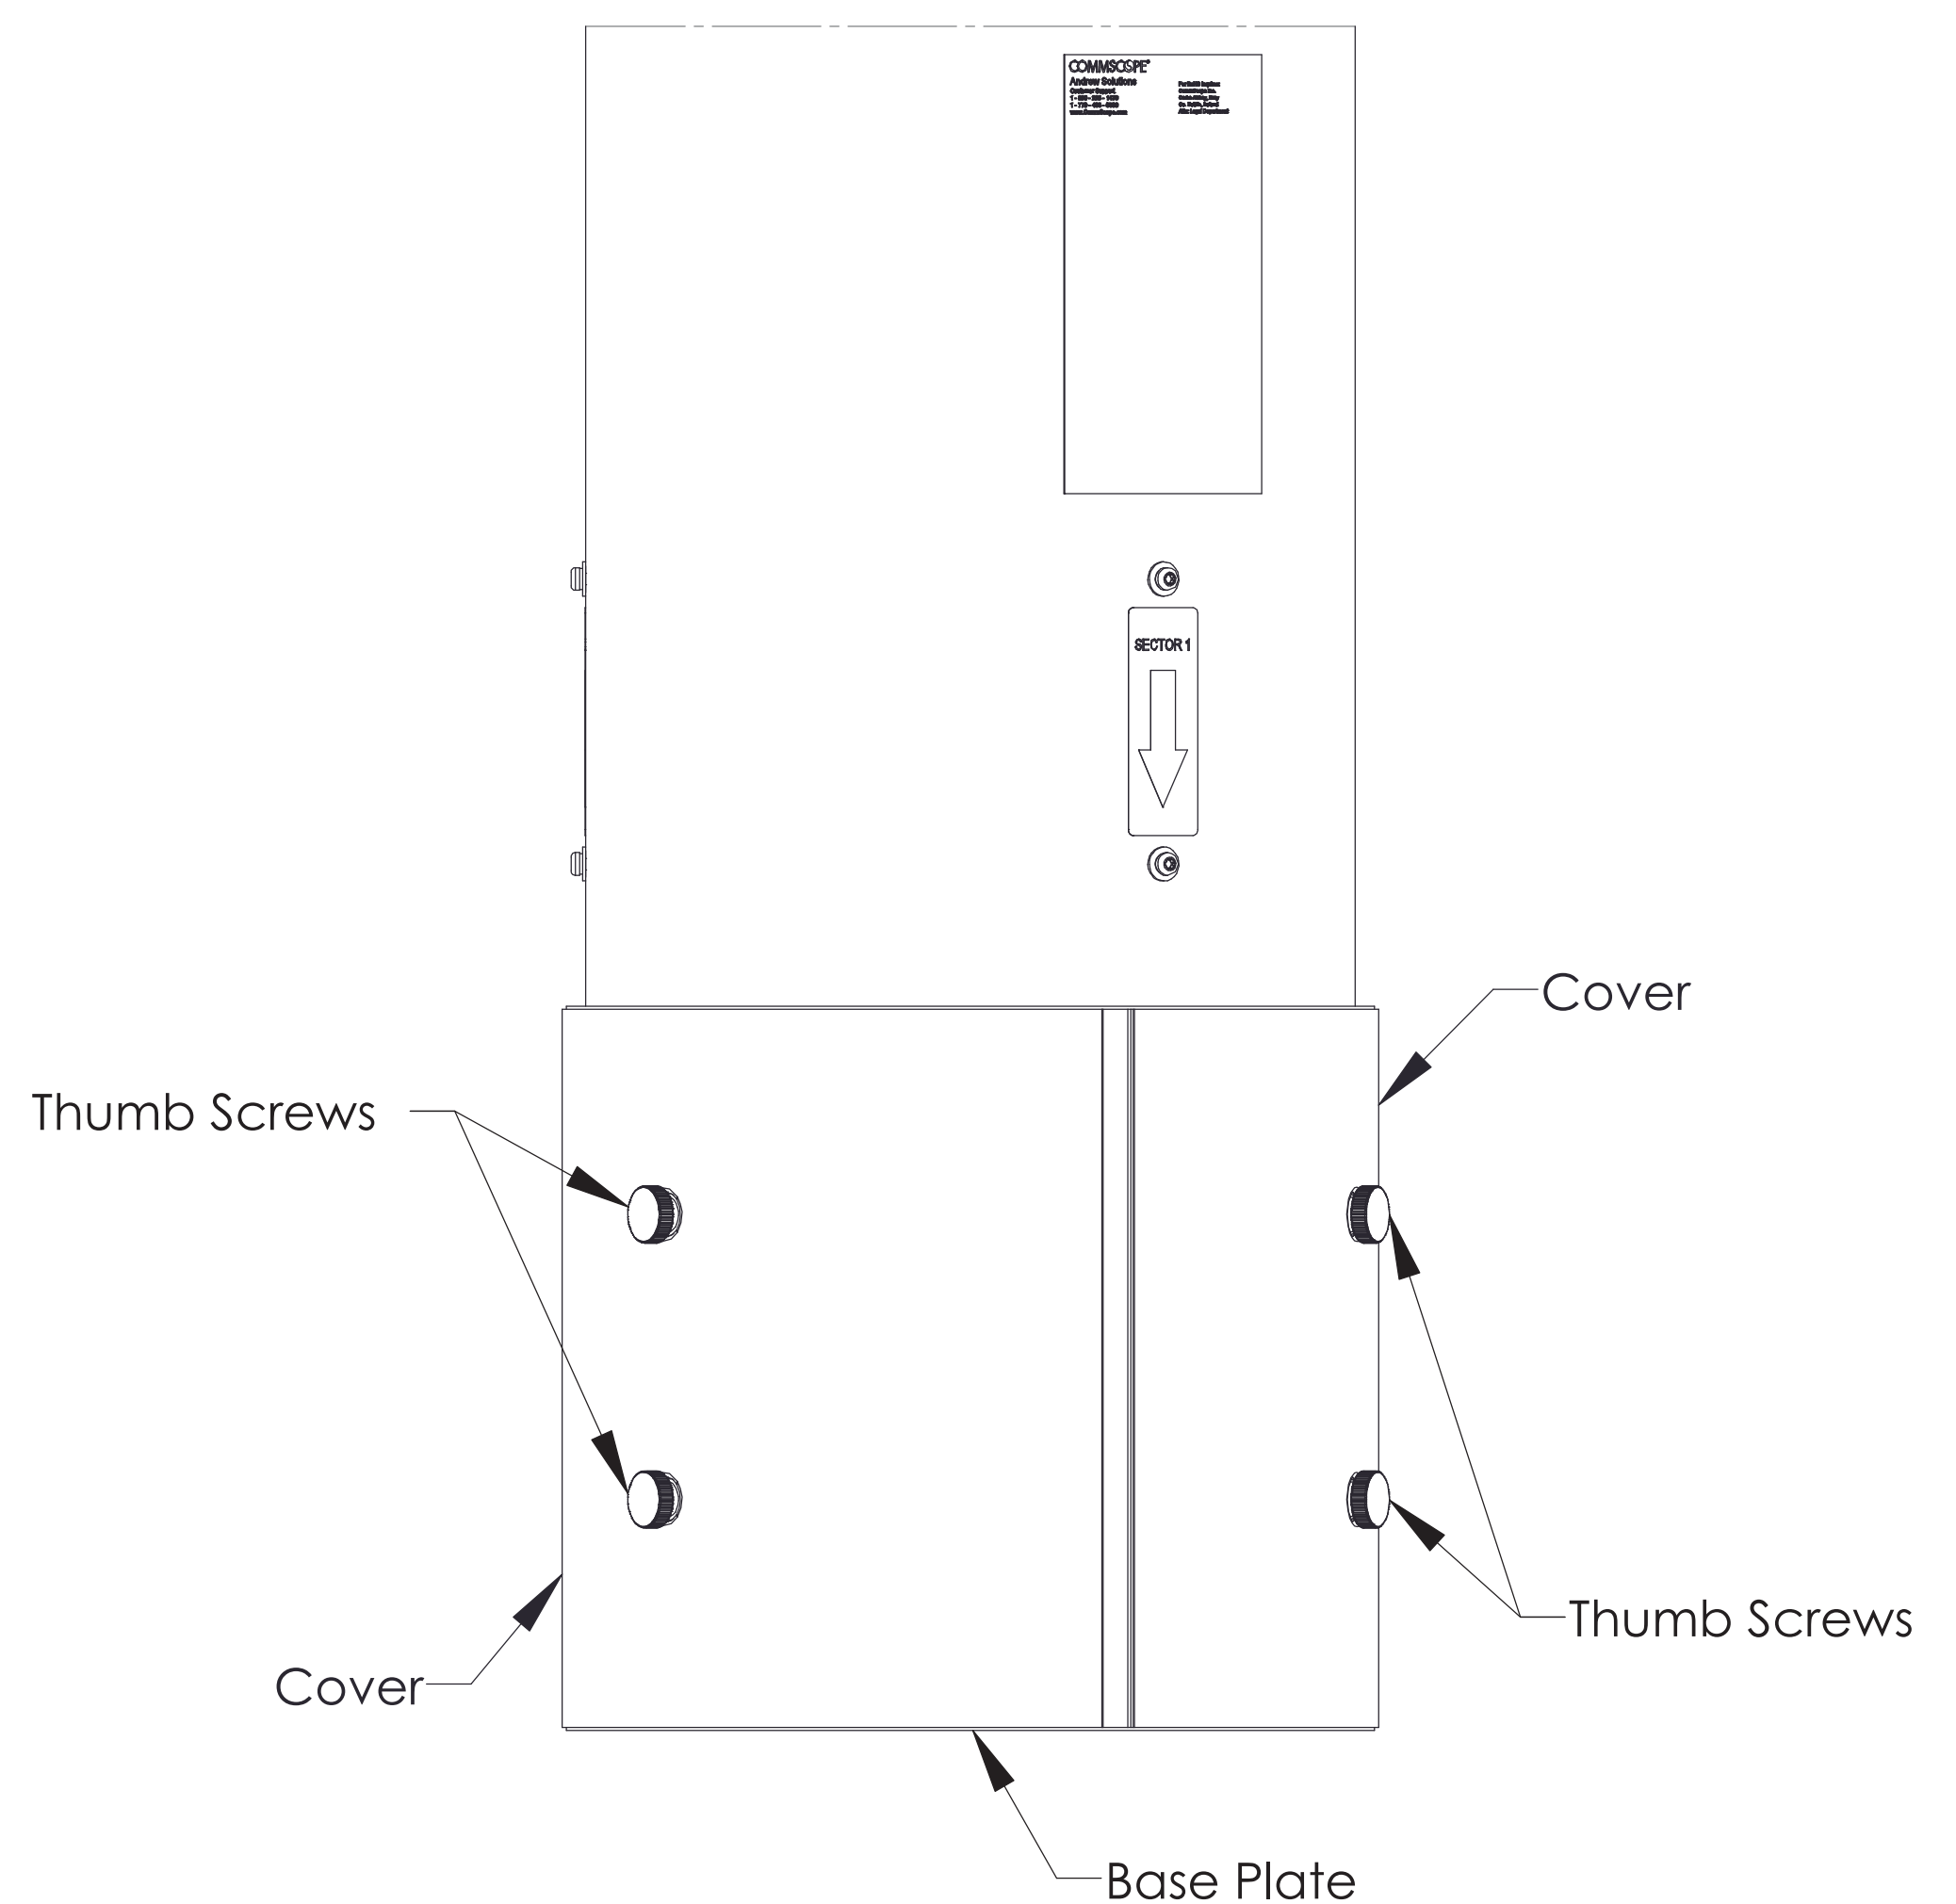

Figure 2. Hinged Covers
1. Loosen the thumb screws (Figure 2), and open the covers.